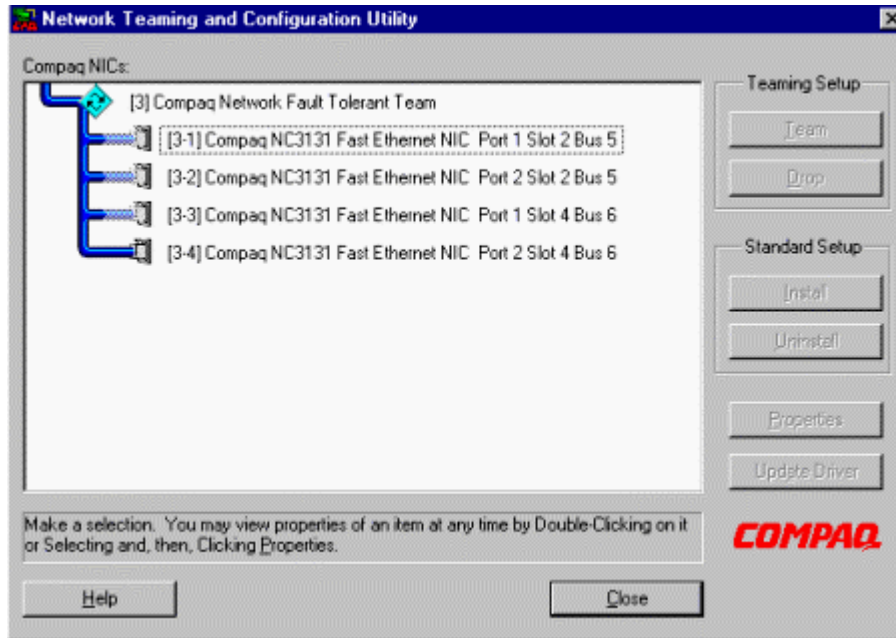

Figure 10. NICs in configuration c – test 2 before being reconfigured
2. Select the **Compaq Network** icon to launch the Compaq Network Teaming and Configuration Utility. Figure 10 shows the controllers requiring reconfiguration in Configuration C.